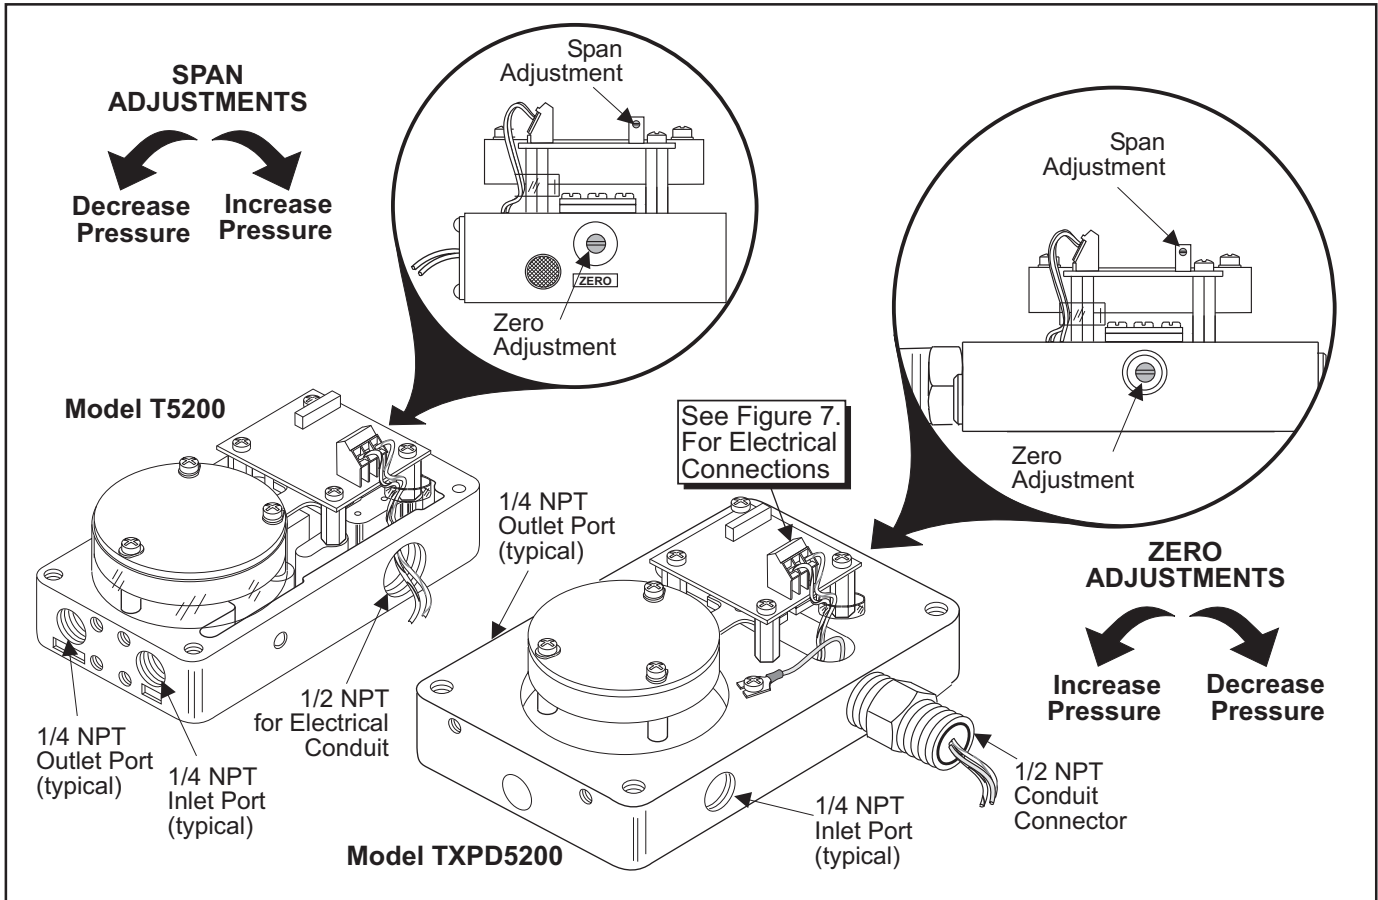

Figure 8. T5200 / TXPD5200 Calibration Configuration.
4. Repeat steps 2-3 until the desired output range is obtained. For more information, see Figure 8. "T5200/ TXPD5200 Calibration Configuration."
8. Repeat steps 6-7 until the desired output range is obtained. For more information, see Figure 8. "T5200/ TXPD5200 Calibration Configuration."